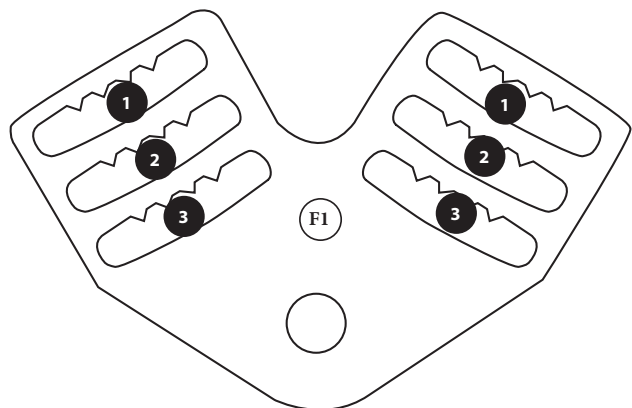
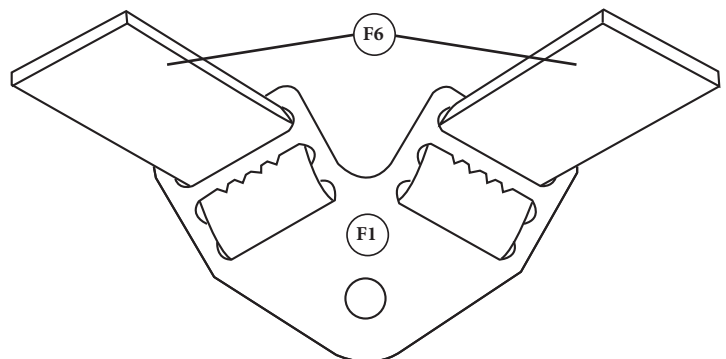

FIG. 2a
FIG. 2b
Pull the left and right ends of the Webbing Handle (F6) through loop 1 of the Handle Plate (F1). Then thread up through loop 2 and into loop 3 [FIG. 2a]. Tuck the excess behind the Handle Plate (F1) so that the end of the Webbing Handle (F6) is captured between the Drum (D) and the Handle Plate (F1). See [FIG. 2b]